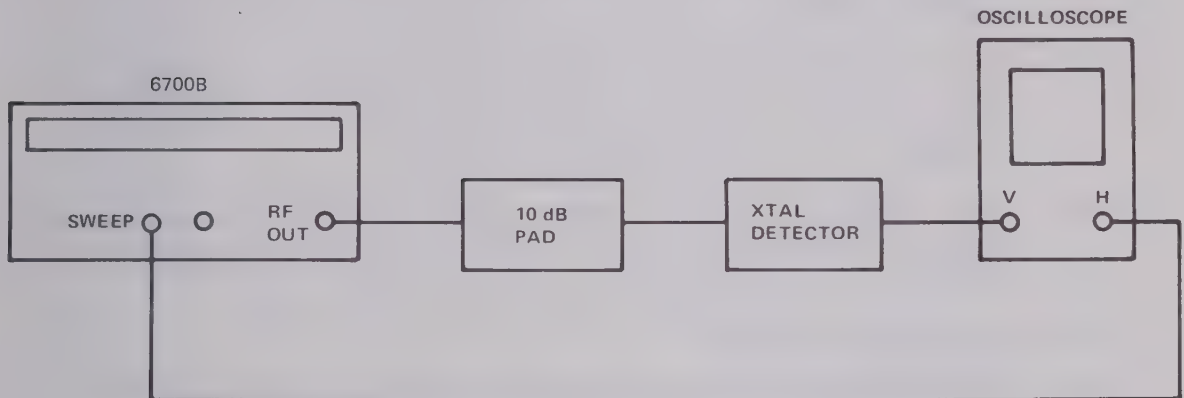

Fig. 15 High frequency clamp calibration test set-up
29. (1) Connect equipment as shown in Fig. 15.